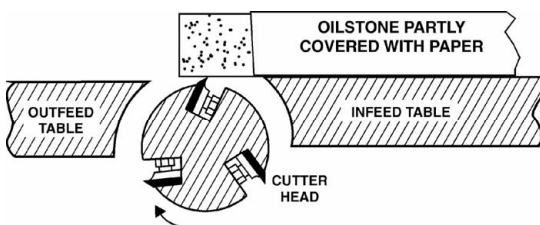

Figure 29
3. To protect the infeed table from scratches, partially cover the sharpening stone with paper. (Fig. 29)